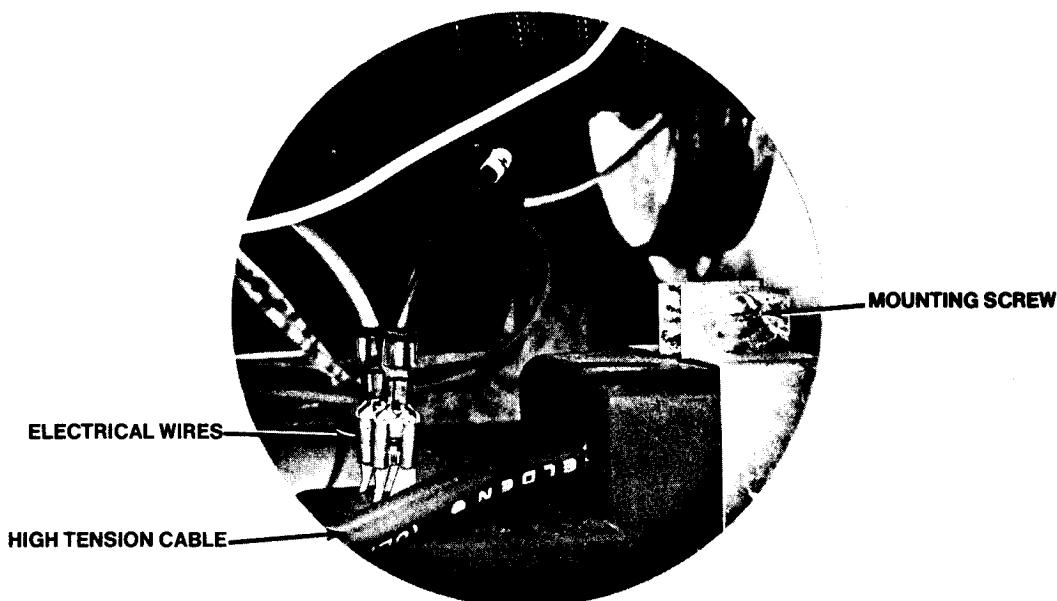

Figure 1
2. By reaching through duct opening, disconnect high tension cable (Figure 1) from ignition pak.
3. Disconnect two electrical wires from ignition pak (Figure 1). Be sure to note which terminal each wire is removed from to aid in proper installation.
1. Position ignition pak under mounting strap as shown in Figure 1. Tighten mounting screw.